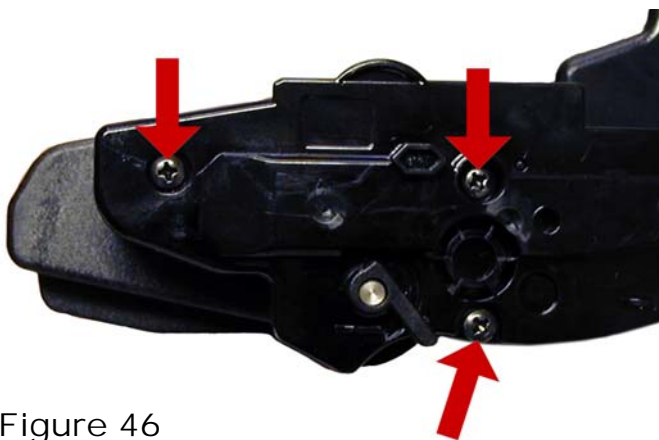

Figure 46
42) Press the drum axle bushing in place. Set it so the small tab is at the end of the groove; make sure it is fully seated. The two small bushings are different. Make sure you have the correct bushing for this side. See **Fig. 46**